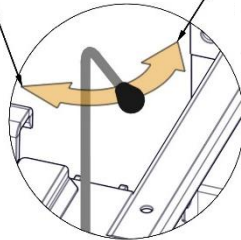

Figure 30
- 16- Turn the « 20K operation pivot » (see Figure 30) clockwise to open the cylinder.
- 12- Turn the « 20K operation pivot » (see Figure 30) counterclockwise to raise the platform until the cylinder is fully closed (see Figure 40).
- 11- Turn the « 20K operation pivot » (see Figure 30) counterclockwise to raise the platform until the cylinder is fully closed (see Figure 40).
- 13- Keep the « 20K Operation Pivot » clockwise (see Figure 30) and your foot on the « 20K Pedal » (see Figure 41) until you feel a slight pressure on the pedal under your foot indicating that you must release the pedal. The lifting unit will be supported on safety devices. This will disengage the « 20K Hook ».